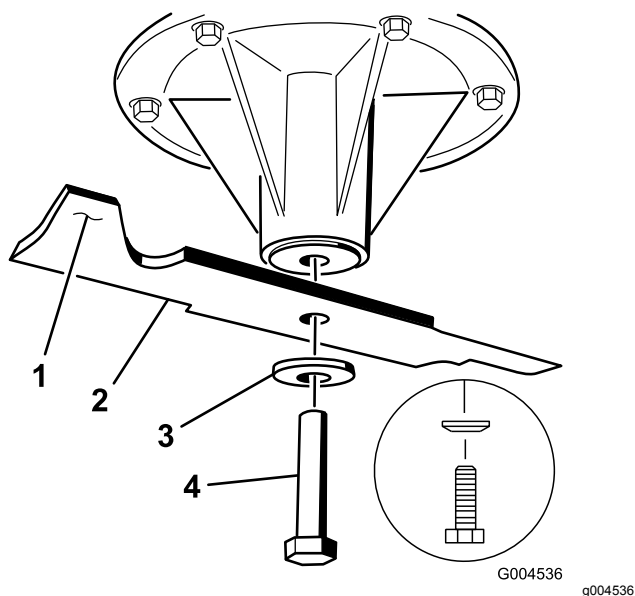

Figure 100
- Install the blade onto the spindle shaft (Figure 100).
- Install the spring disk and blade bolt (Figure 100).
**Note:** The spring-disk cone must be installed toward the bolt head (Figure 100).